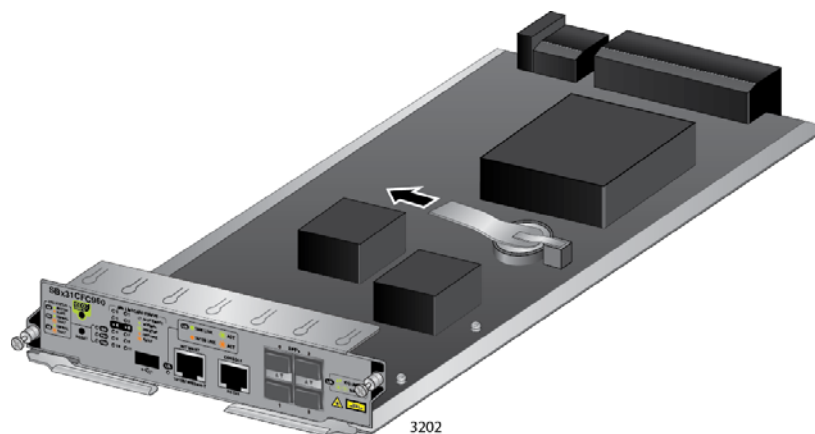

Figure 68. Removing the Battery Insulator
4. Remove the battery insulator tab on the controller card by sliding it out from between the battery and battery clip, as shown in Figure 68 on page 130.